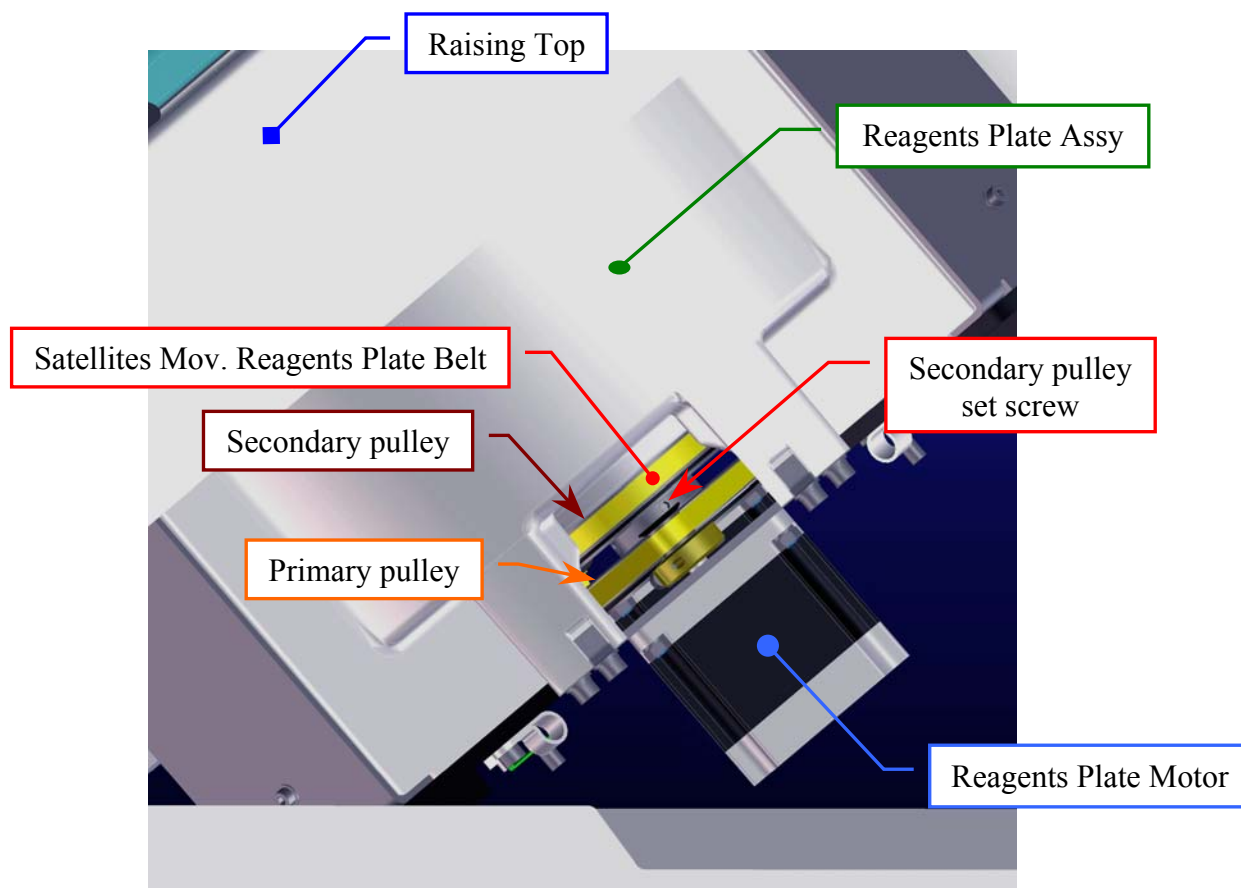

Fig. 76 – Secondary pulley of the Reagents Plate Assy
- g. loosen the two set screws of the secondary pulley of the Reagents Plate (Fig. 76);
- i. lever on the primary pulley with a flat head screwdriver in order to obtain that the secondary pulley is locked on the end of the run, and then tighten the two set screws of the secondary pulley of the Reagents Plate (Fig. 76);
7. Loosen much the two set screws of the secondary pulley of the Reagents Plate (**Fig. 76**).